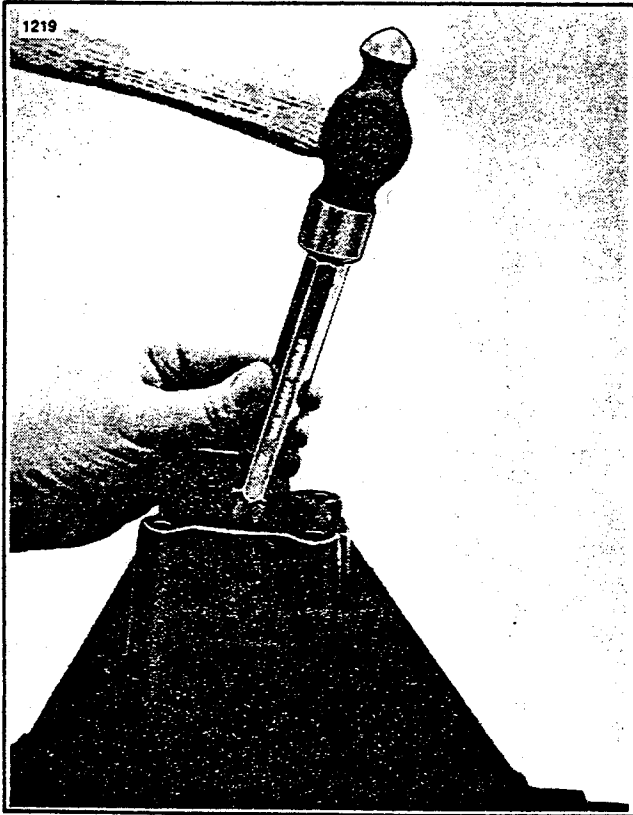

Figure 3-19. Driving Out Rear Pinion Bearing Cup
21. Rear bearing cup (27) can be drive out with drift (Figure 3-19). Shims (29) are located between bearing cup (27) and carrier bore. Retain these shims for reassembly. Shims (29) are used to set pinion depth.
22. Front bearing cup (26) can be driven out of housing with brass drift. Use caution to avoid nicking carrier bore.